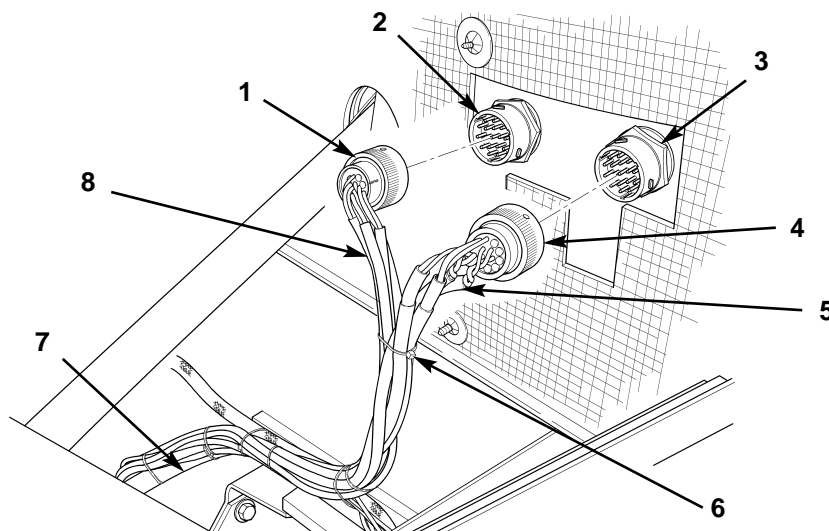

Figure 5. Connecting Harnesses to Bulkhead Connectors.
1. Lay out speed sensor harness (figure 5, item 5) and modulator harness (figure 5, item 8) on shop floor. Tie together with five new tie straps (figure 5, item 6) approximately 3 ft (91 cm) from connectors (figure 5, items 1 and 4).
2. Connect speed sensor harness connector (figure 5, item 4) and modulator harness connector (figure 5, item 1) to bulkhead connectors (figure 5, items 2 and 3), and route harness leads down to left frame rail (figure 5, item 7).